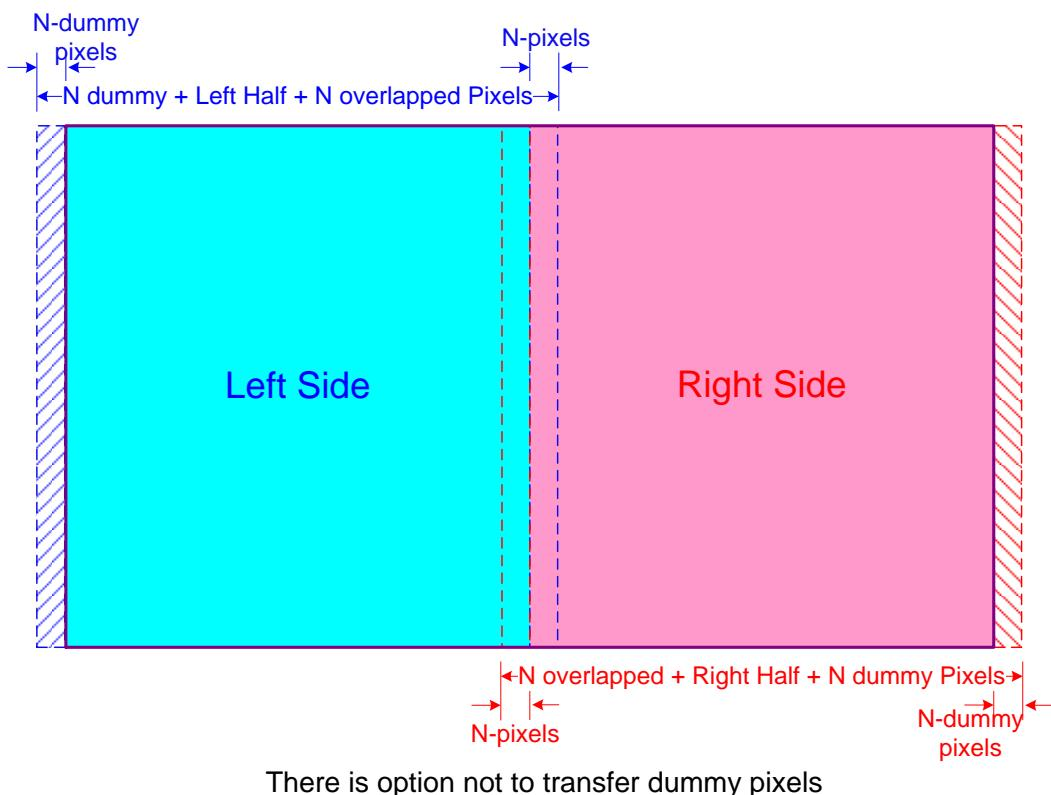

Figure 3.3 Line Overlap Splitting in Dual DSI Link
7. For dual DSI link splitting, overlapped splitting shown in Figure 3.3 is also supported.